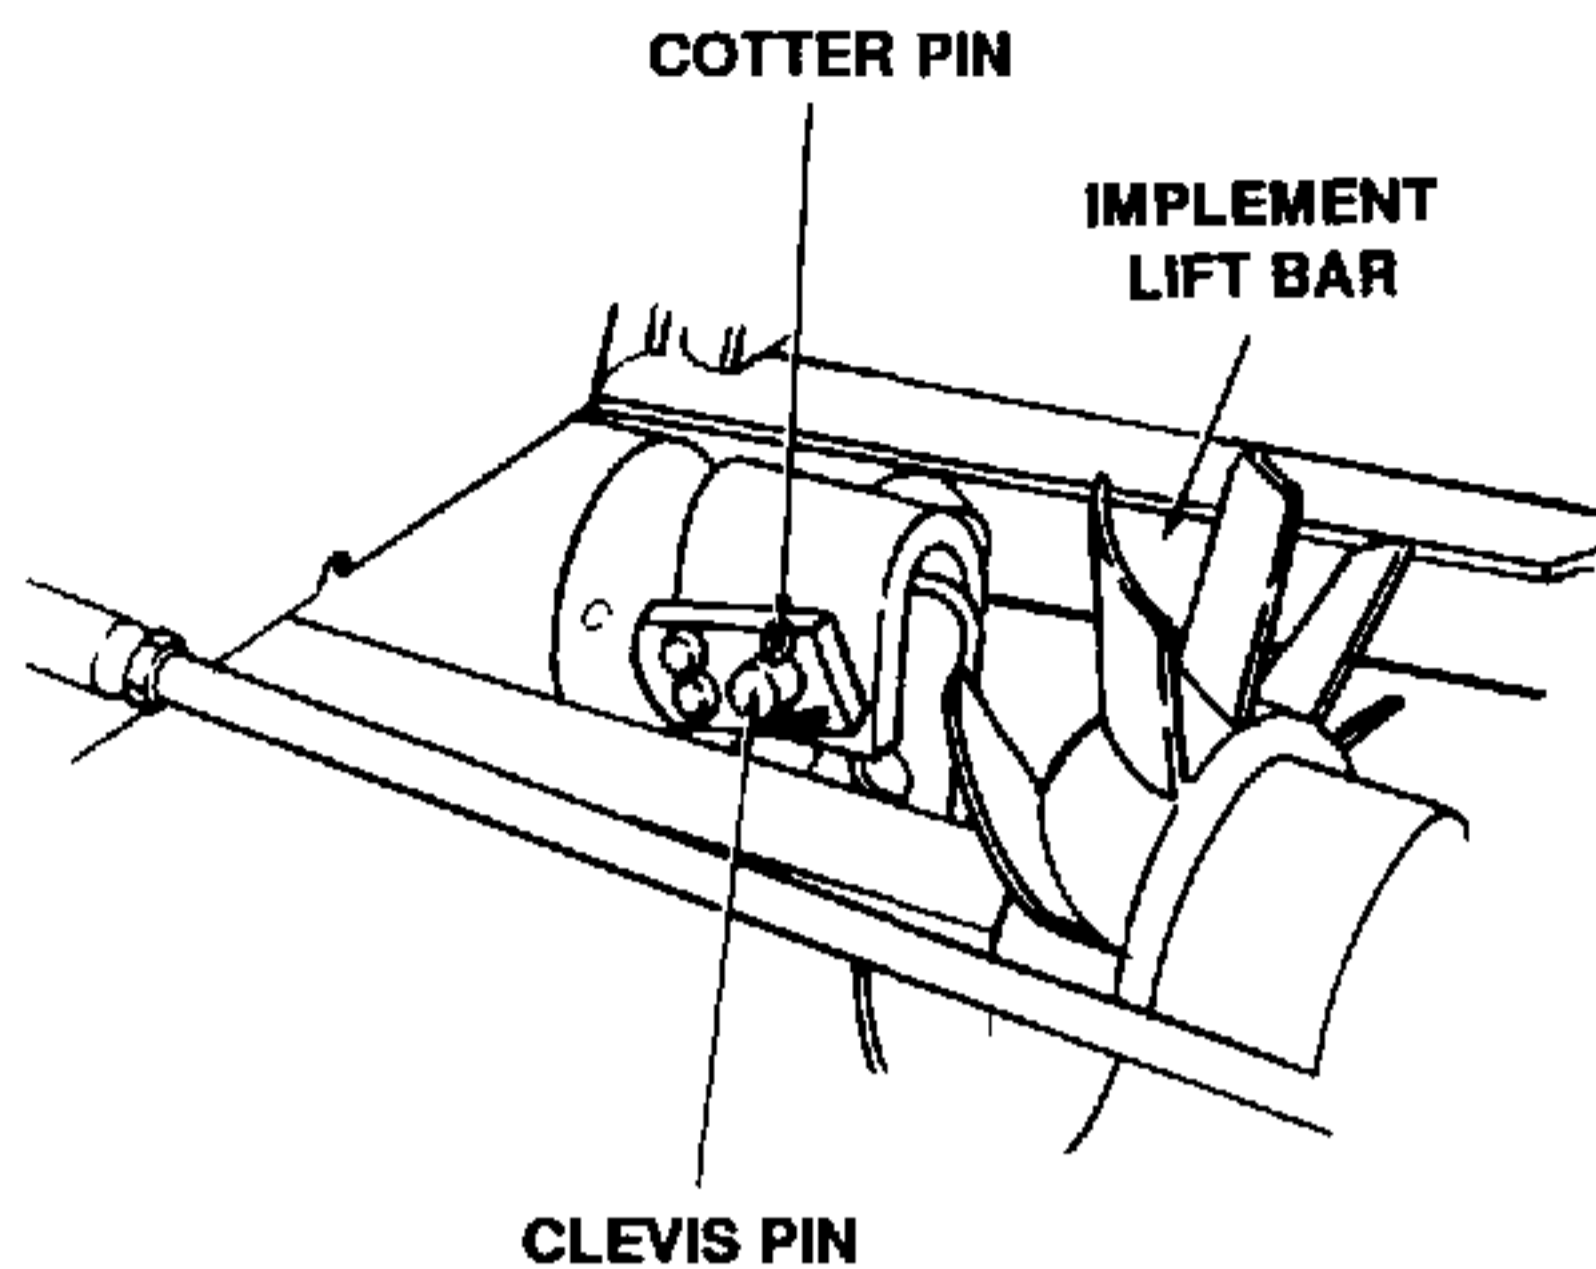

Figure 7-54. Connecting Implement Lift Bar (Model 389 Only).
5. Connect front end of implement lift bar (2, Figure 7-41) (applies to Model 389 only). Refer to Figure 7-54.